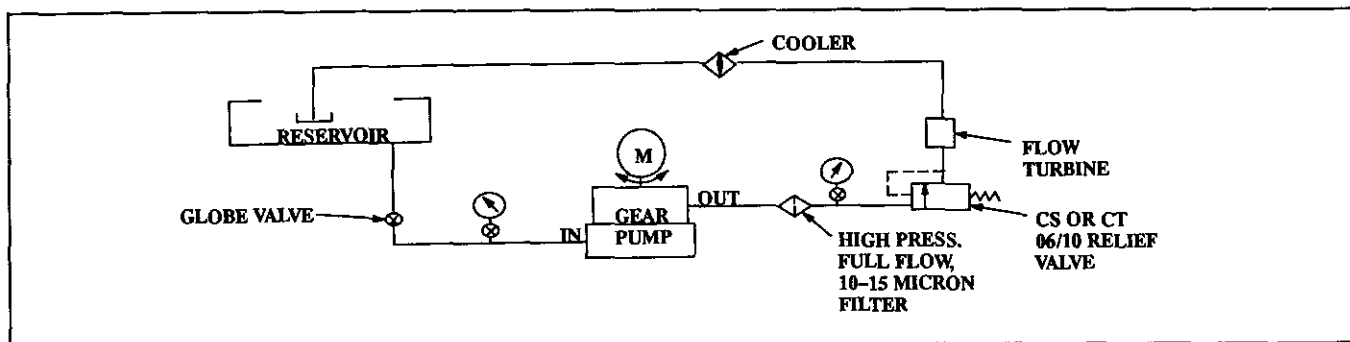

Figure 13. Single Pump Test Circuit
1. Install gear pump into circuit as shown in Figures 13 and 14. Make sure full flow, 10-15 micron high pressure filters are installed at pump outlets. Be sure all connections are tight and the motor is set for proper pump rotation.